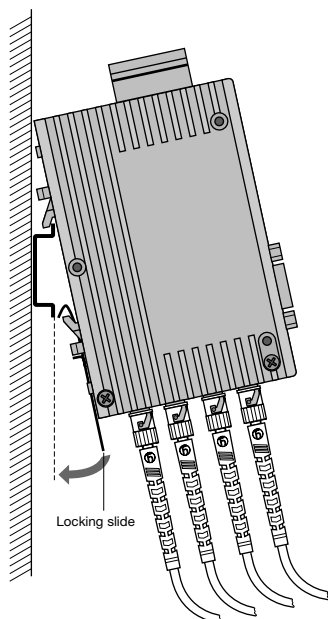

Fig. 7: Mounting a module on a standard hat rail
- ▶ Hang the top snap-in hooks of the module into the hat rail and press the underside onto the rail (as shown in Fig. 7) until it audibly clicks in.